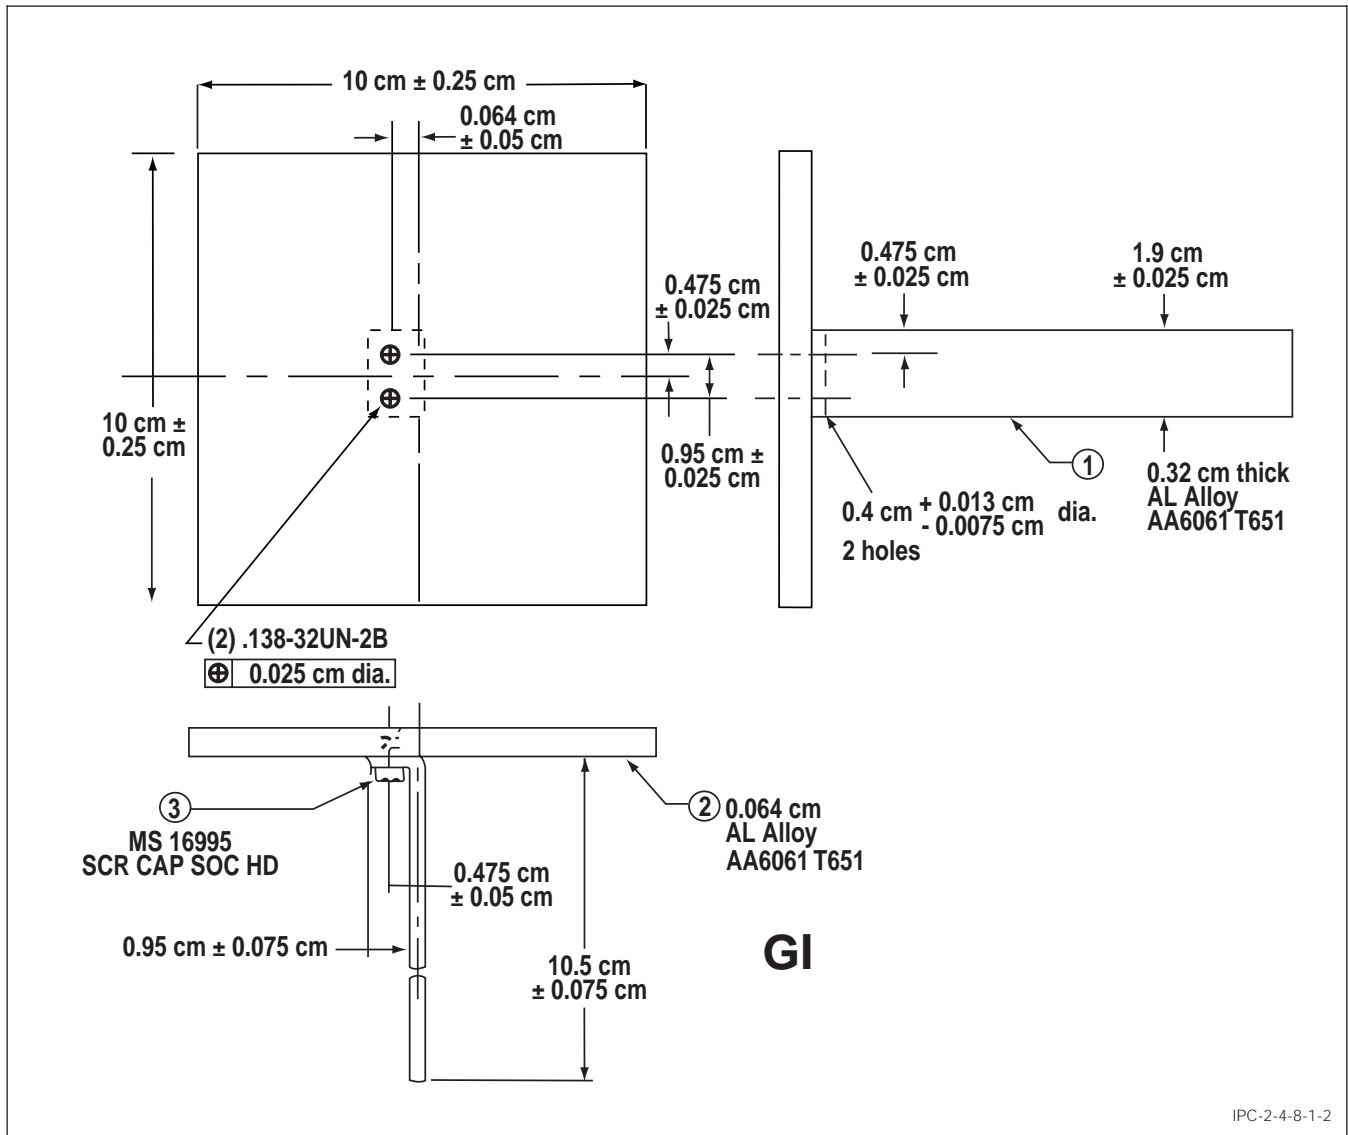

Figure 2 Keyhole Horizontal Axis
4.3 Keyhole horizontal base fixture per Figure 2